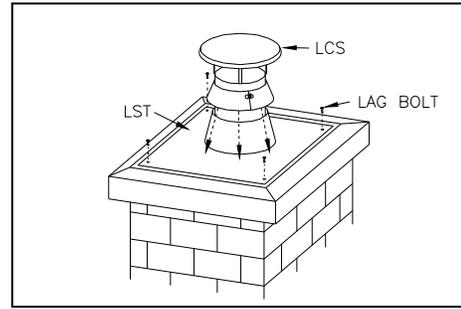

Fig. 5
5. Install the top support (LST) on top of the masonry chimney using lag bolts and/or cement (fig.5).
6. Slip the support collar over the liner until it rests on the support (LST). Tighten the bolt to fasten it to the liner. (fig. 5)